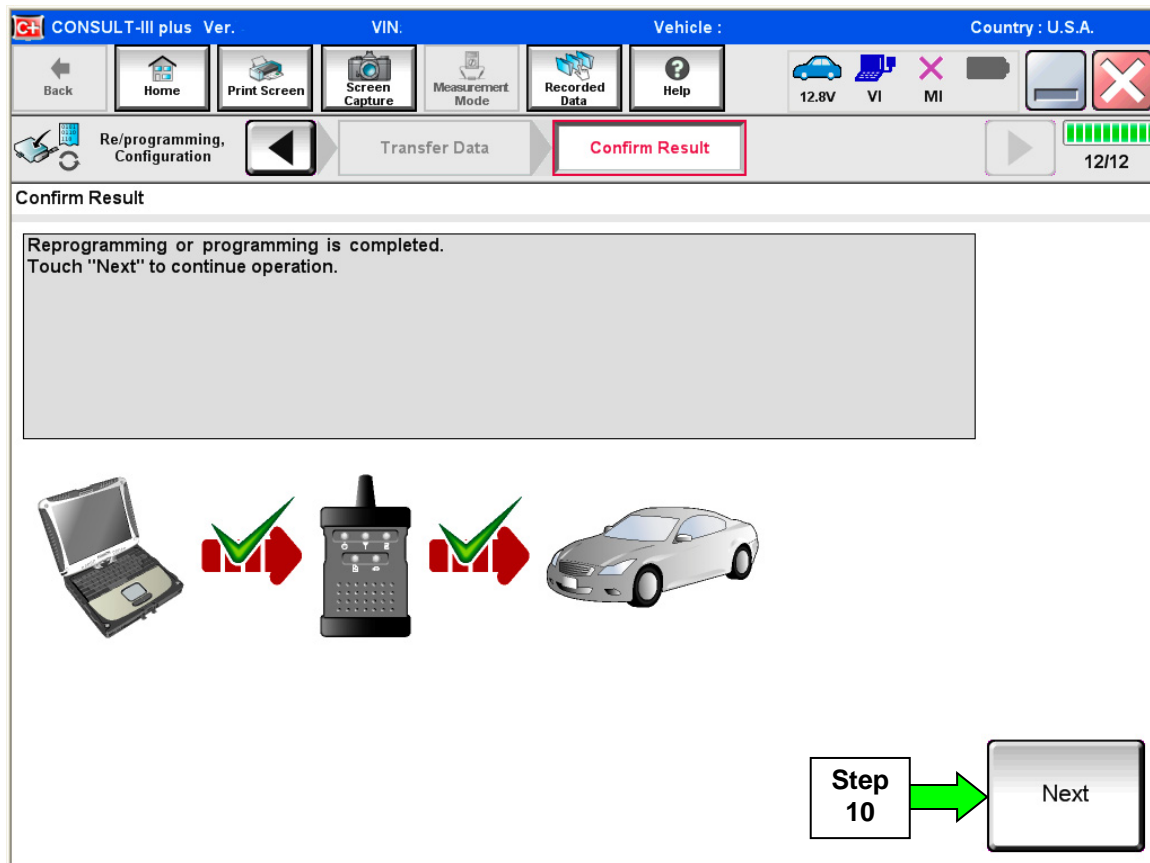

Figure 4
8. When the screen in Figure 4 displays, reprogramming is complete.
NOTE: If the screen in Figure 4 does not display (indicating that reprogramming did not complete), refer to the information on the next page.